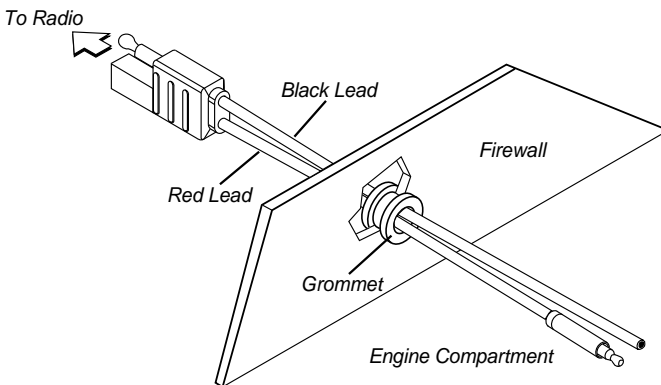

Figure 3 - Power Cable Routing Into the Engine Compartment
3. From inside the vehicle, feed the red and black leads (without lugs attached) through the access hole and into the engine compartment. See Figure 3.